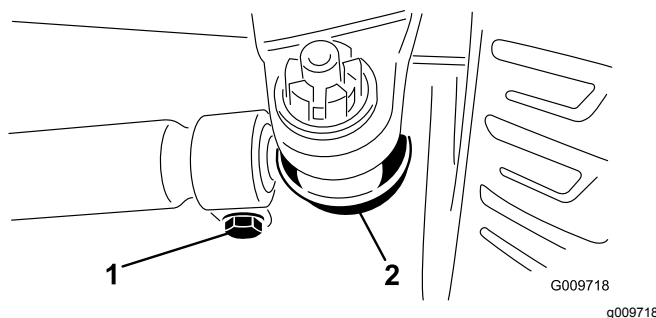

Figure 64
2. To adjust the distance, remove the cotter pin and nut from either tie rod ball joint. Remove the tie rod ball joint from the axle case support (Figure 64).
3. Loosen the clamps at both ends of the tie rods (Figure 64).